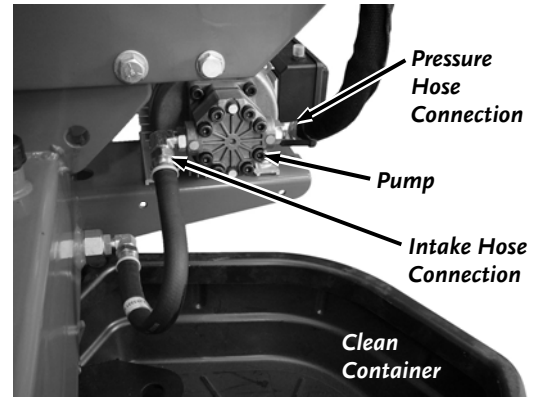

Figure 1
2. Place the Clean Container under the Hydraulic Pump (**Figure 1**).